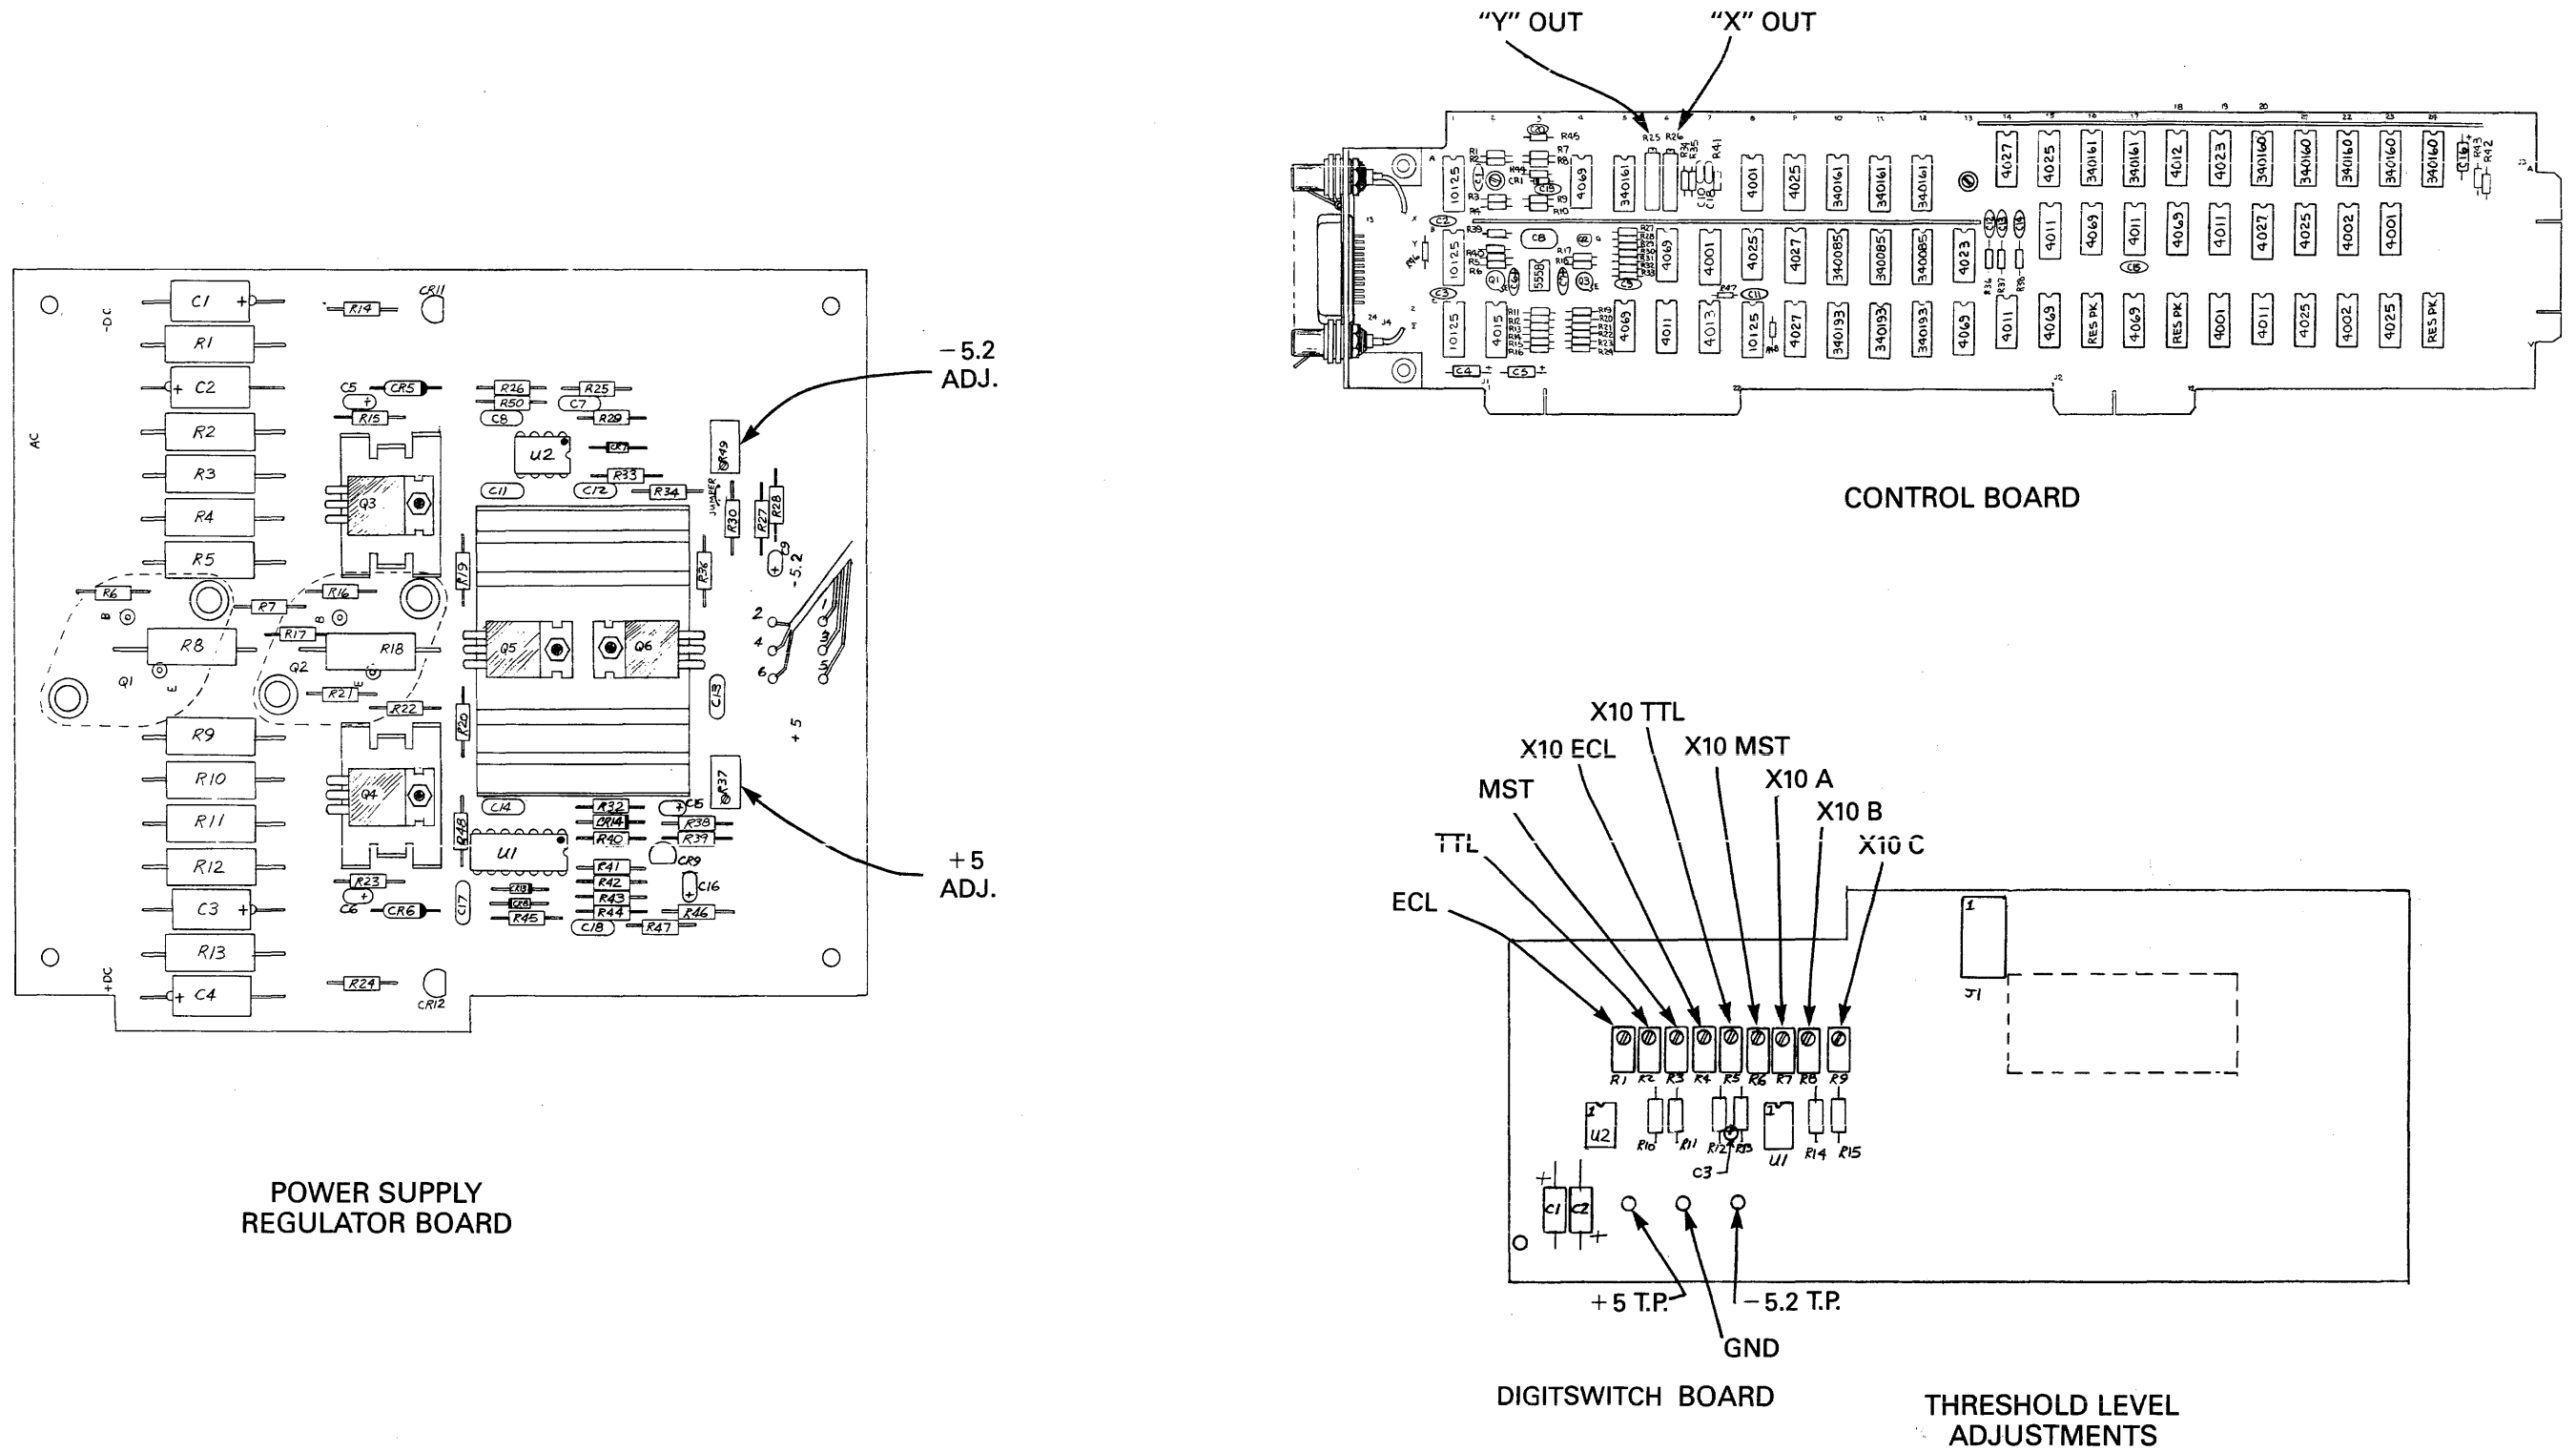

Figure 6.1 Location of Adjustments
Adjustments are provided to calibrate the "X" and "Y" outputs of the 851-D to a specific output device. If accurate time measurements are to be made, the 851-D and the display device must be calibrated as a system. Before leaving the factory, the X and Y outputs are set at 1.0 V p-p (X1) and 0.8 V p-p respectively. Figure 6.1 shows the location of the adjustments on the control board for the X and Y levels.
3. Referring to Figure 6.1, front panel view, connect the voltmeter between the +5 TP and the ground TP. Voltage should be 5.00 \pm 0.02 V.
Readjust, using Figure 6.1 as a guide, any level that does not meet specification.